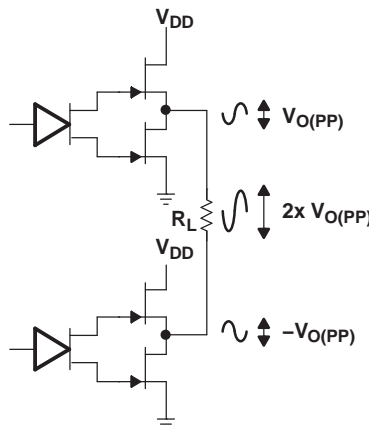

Figure 34. Differential Output Configuration
Figure 34 shows a Class-AB audio power amplifier (APA) in a bridge-tied-load (BTL) configuration. The TPA6040A4 speaker amplifier consists of two Class-AB differential amplifiers per channel driving the positive and negative terminals of the load. Specifically, differential drive means that as one side of the amplifier (the positive terminal, for example) is slewing up, the other side is slewing down, and vice versa. This doubles the voltage swing across the load as opposed to a ground-referenced load, or a single-ended load. Power is proportional to the square of the voltage. Plugging 2x VO(PP) into the power equation yields 4X the output power from the same supply rail and load impedance as would have been obtained with a ground-referenced load (see Equation 3).